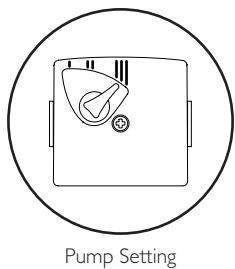

Fig. 57
3. A standard replacement Grundfos 15-60 head can now be fitted. Connect the pump wiring to the new head. **The pump speed must be set to 3** (Fig. 57).